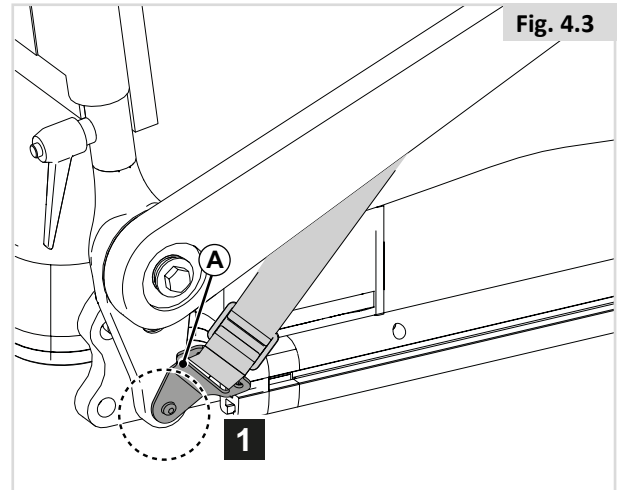

Fig. 4.3
1. Attach (A) to the seating frame using a screw on the left and on the right. (Fig 4.3)